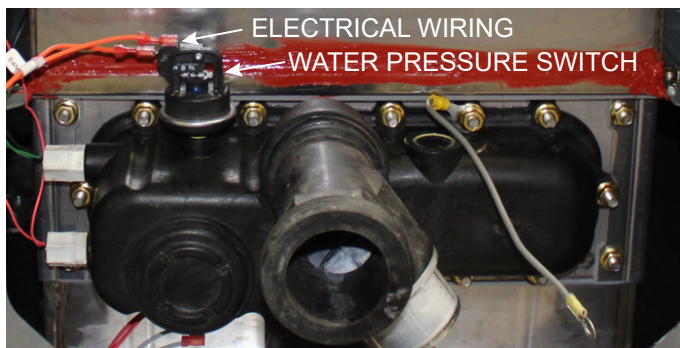

Figure 3. Water Pressure Switch and Wiring
8. Disconnect the electrical wiring from the Water Pressure Switch (See **Figure 3**).